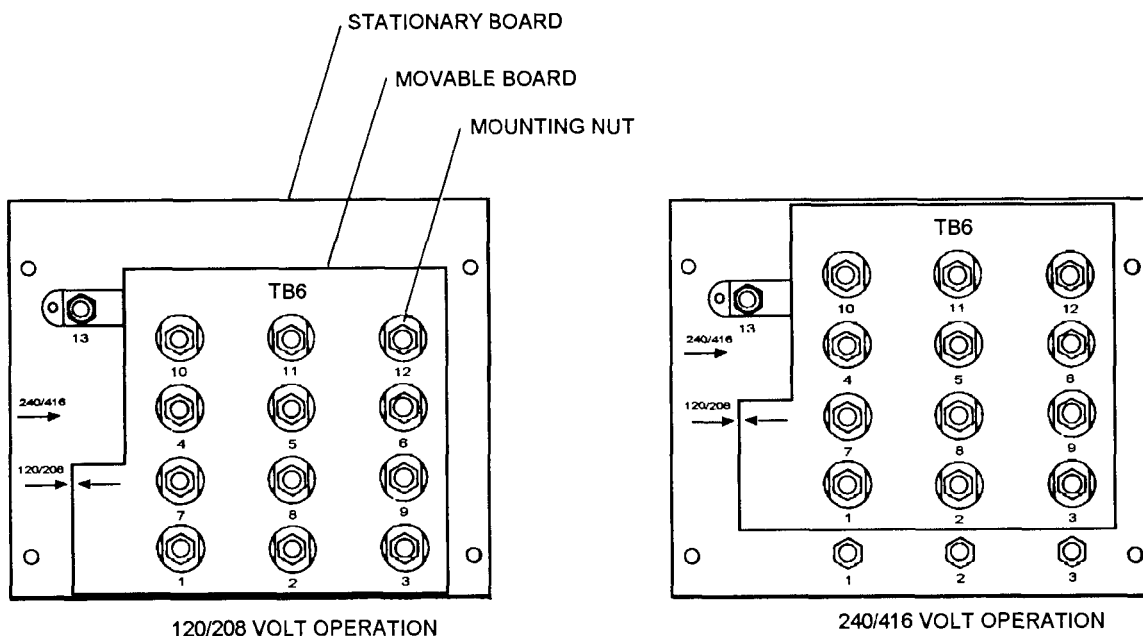

Figure 2-7. Voltage Reconnection Board
- (1) Remove 12 mounting nuts (Figure 2-7) and locate the movable board until the arrow at its edge mates with the arrow on the stationary board indicating the desired operator voltage.
- (2) Install and tighten the mounting nuts.